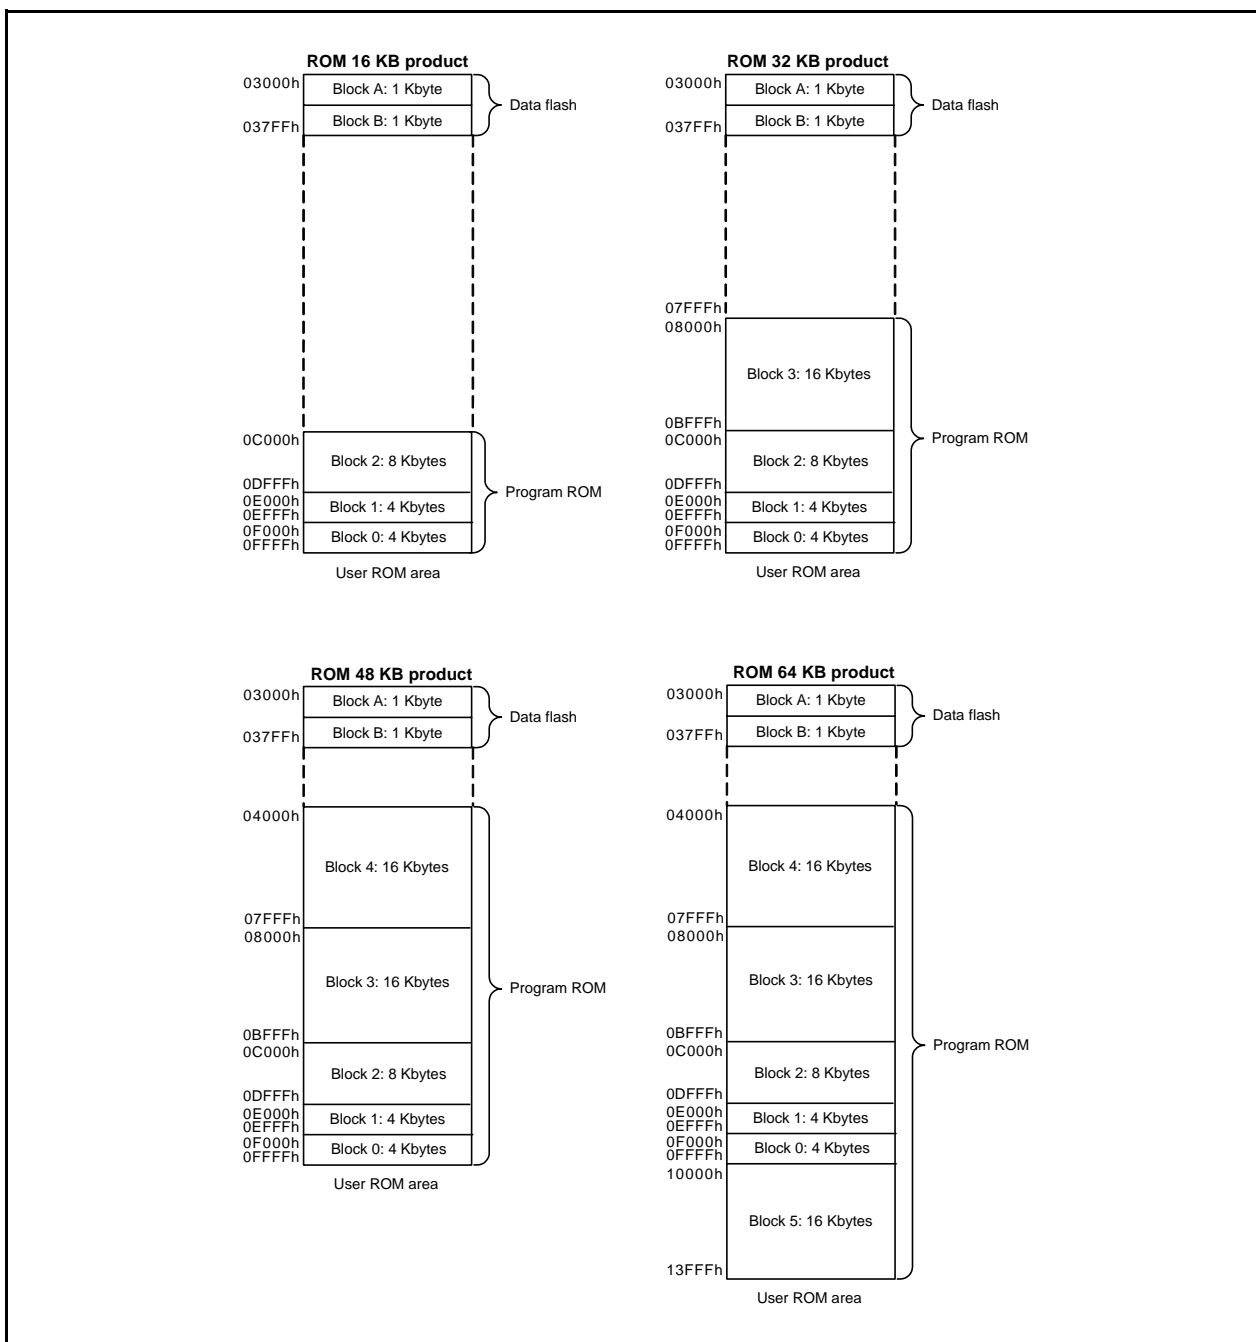
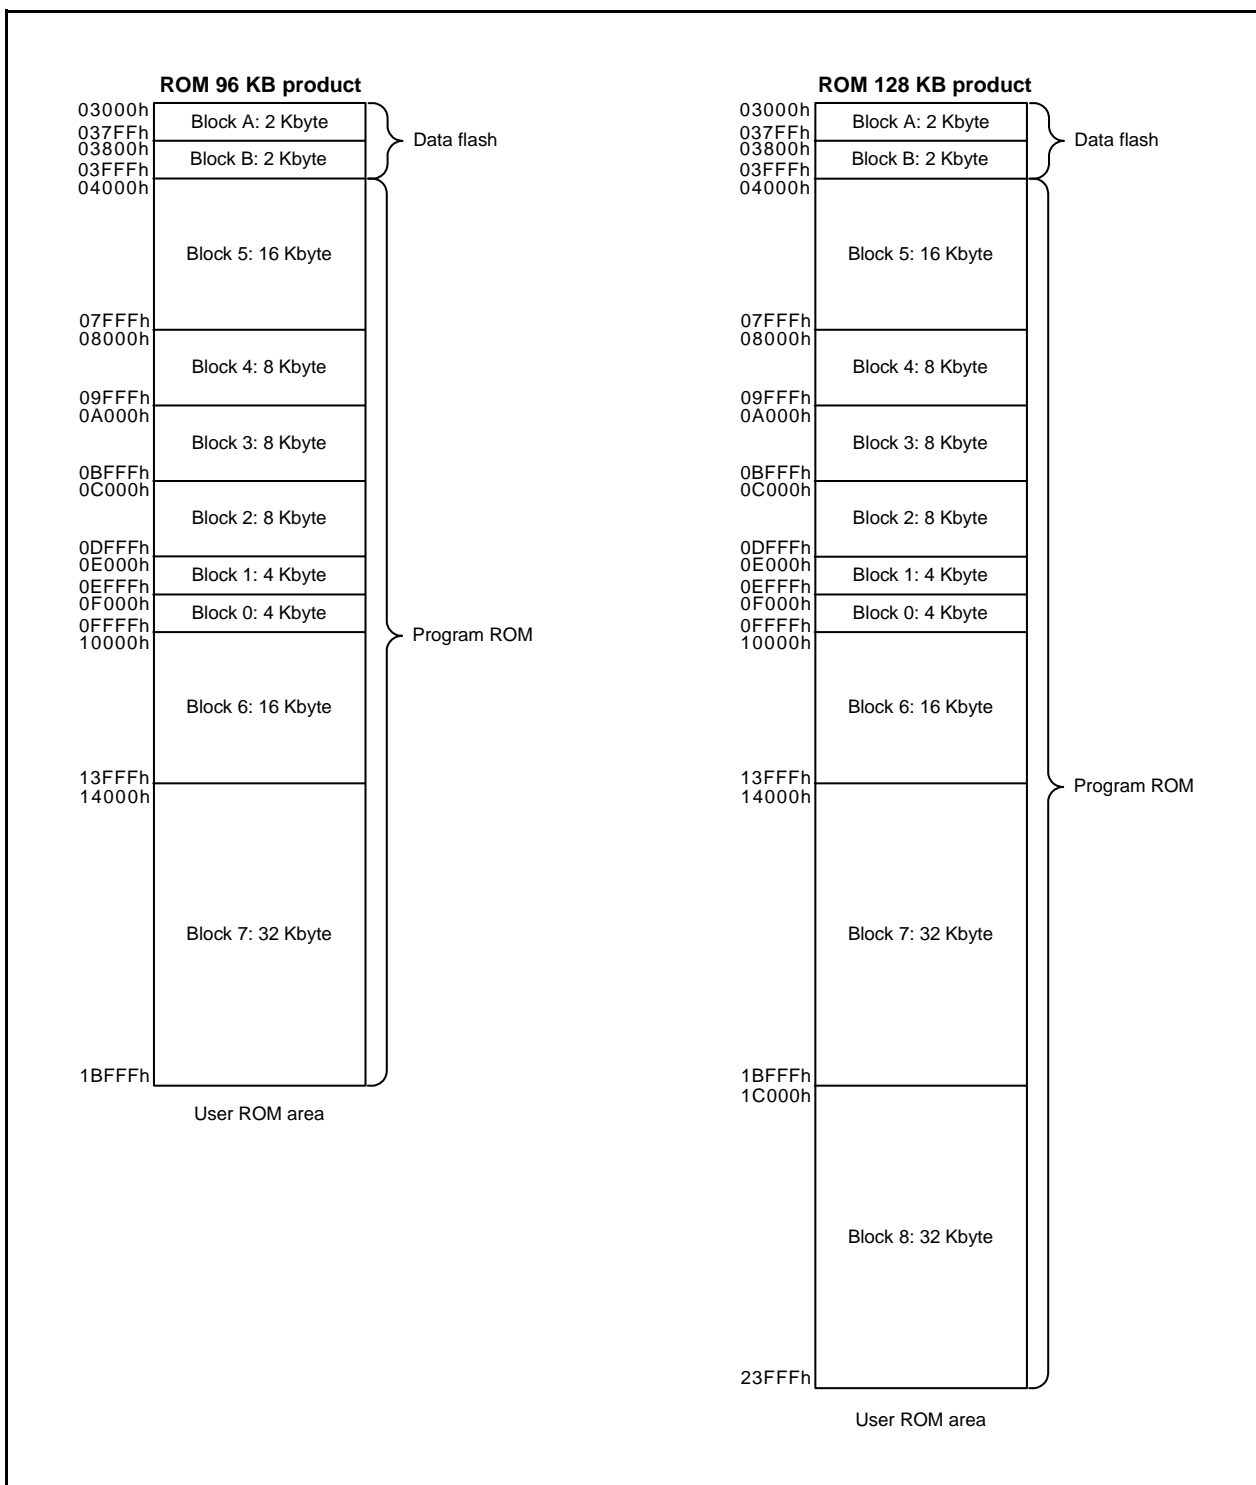

Figure 29.1 Flash Memory Block Diagrams of R8C/LA6A Group and R8C/LA8A Group (1)
Figure 29.2 Flash Memory Block Diagrams of R8C/LA6A Group and R8C/LA8A Group (2)
4. The number of blocks and block division vary with the MCU. Refer to **Figure 29.1 Flash Memory Block Diagrams of R8C/LA6A Group and R8C/LA8A Group (1)** and **Figure 29.2 Flash Memory Block Diagrams of R8C/LA6A Group and R8C/LA8A Group (2)** for details.
Figures 29.1 and 29.2 show the Flash Memory Block Diagrams of R8C/LA6A Group and R8C/LA8A Group.